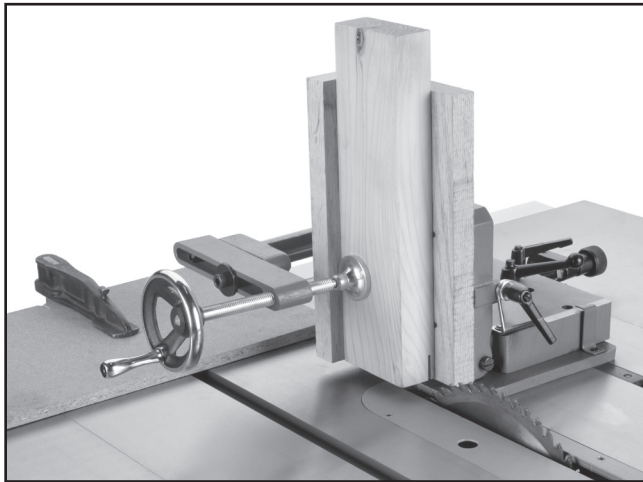

Figure 20. Clamping the workpiece.
5. Slide the jig back to the base stop, place the workpiece on the base stop, and clamp the workpiece against spacer block and back stop as shown in **Figure 20**.